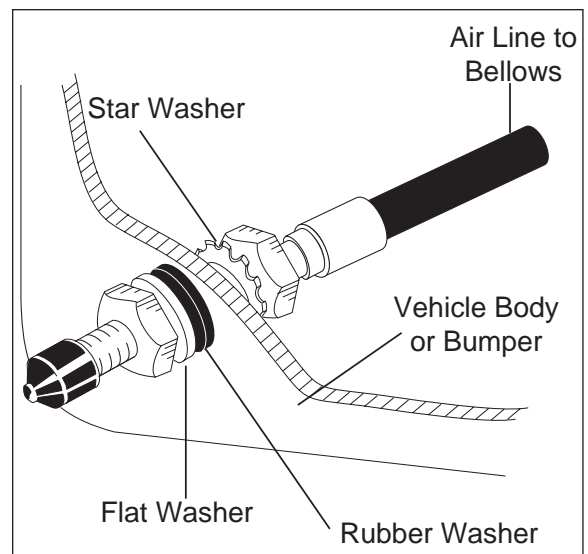

Figure 6
2. Use a standard tube cutter, a razor blade, or very sharp knife to cut the air line in two equal lengths. A clean square cut will ensure against leaks. Drill  $\frac{5}{16}$ " hole for inflation valve and mount as illustrated. The rubber washer on outside is for weather seal (Figure 6).